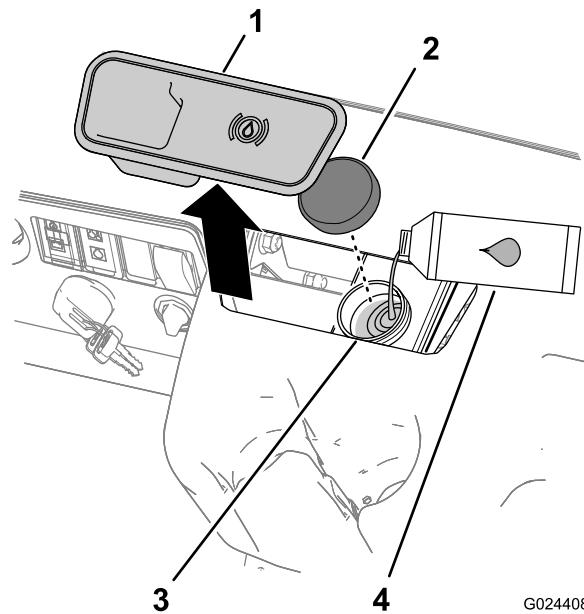

Figure 17
- A. Clean the area around the reservoir cap, and remove the cap (Figure 17).
- C. Install the reservoir cap (Figure 17).
2. Remove the rubber plug in the center and on top of the dash to gain access to the master brake cylinder and reservoir (Figure 17).